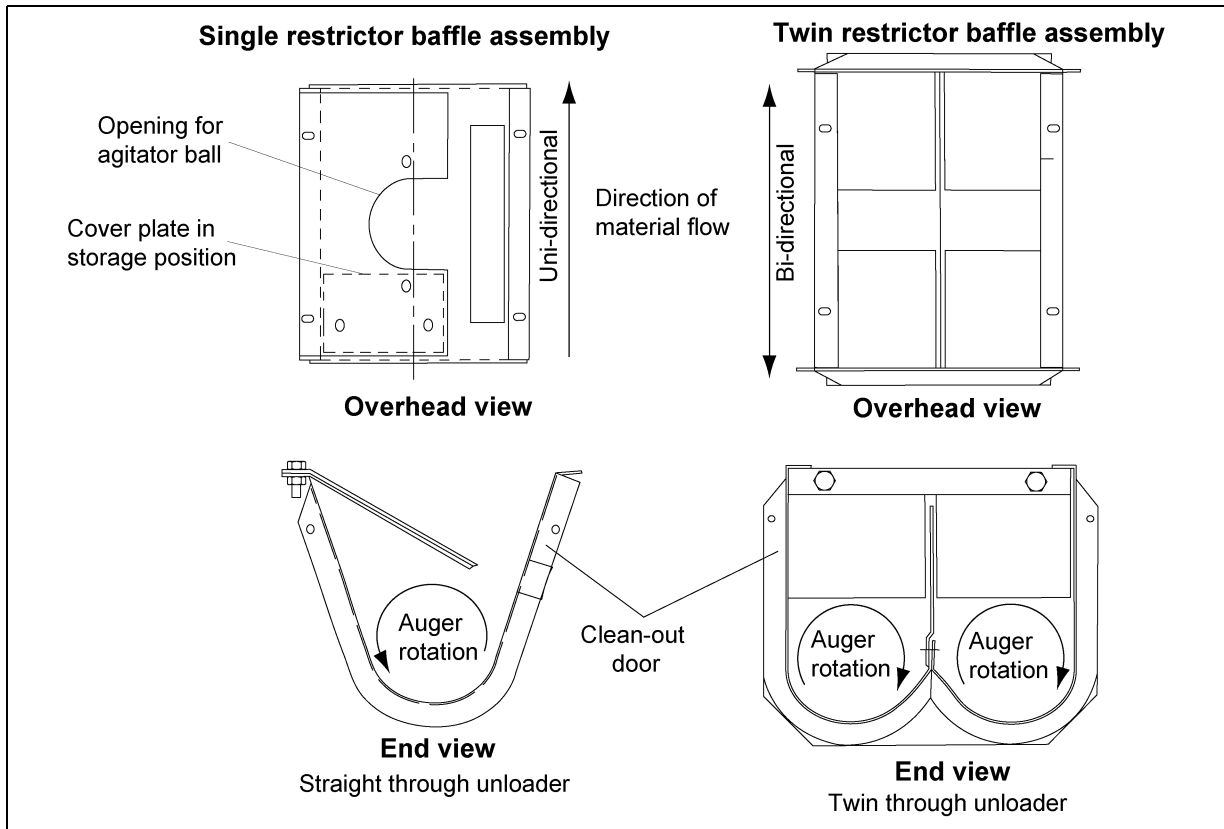

Figure 5H
2. Install baffle plate (FLX-4310) in the single-through unloader as shown in *Figure 5H*. The twin unloader baffle is factory installed as shown in *Figure 5H*.